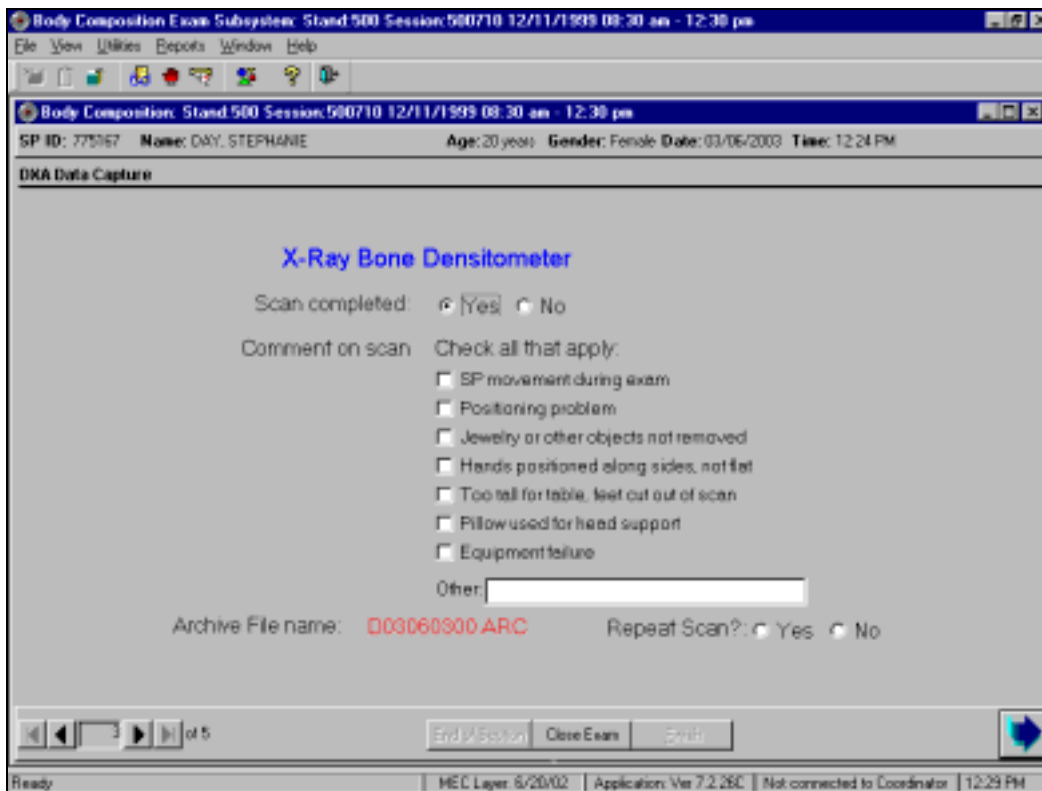

Figure 4-25. DXA data capture (2)
- The Archive number is D for DXA, 030603 for March 6, 2003, and 00 for the first file to be archived. The file extension is .ARC. See Figure 4-25.